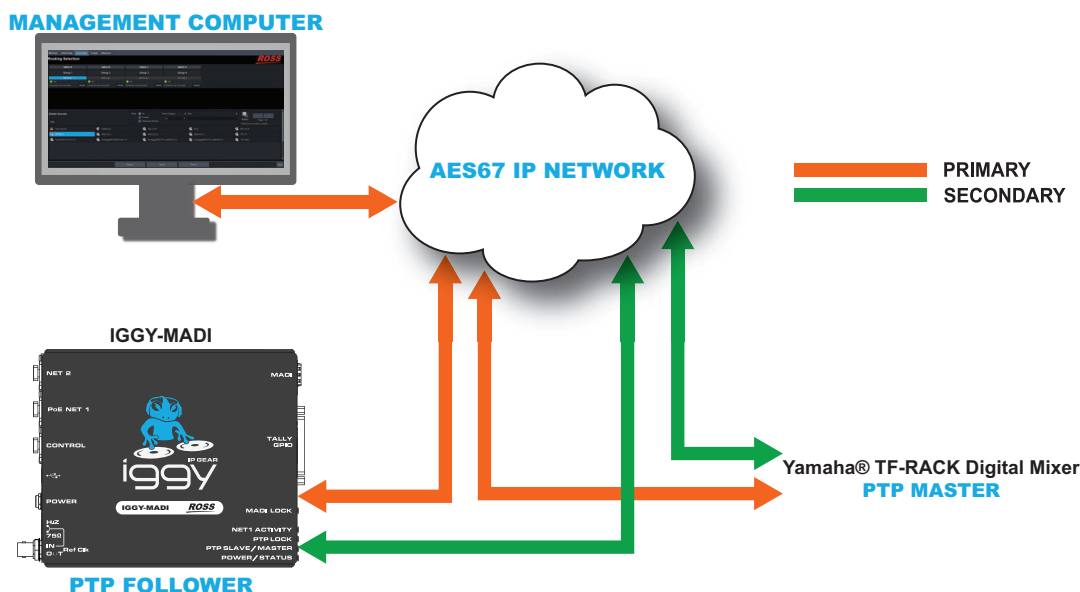

Figure 1 Simplified Network Configuration
**Figure 1** shows a simplified network configuration with IGGY and a PTP Master that supports AES67. In addition, there is a computer connected to the primary subnet for management/control of the devices. The instructions in this document follow the configuration in **Figure 1**.